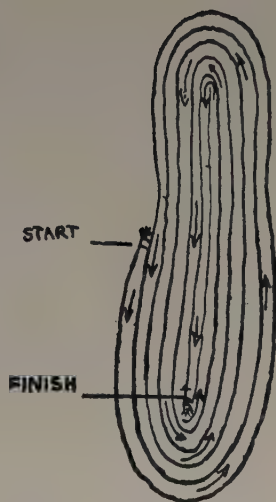

FIG. 56.—DIAGRAM (1).
Cut out the shape of the sole of the shoe in cardboard, and sew the plait of raffia on to this, as shown in Fig. 56 (1), making it lie as flat as possible.